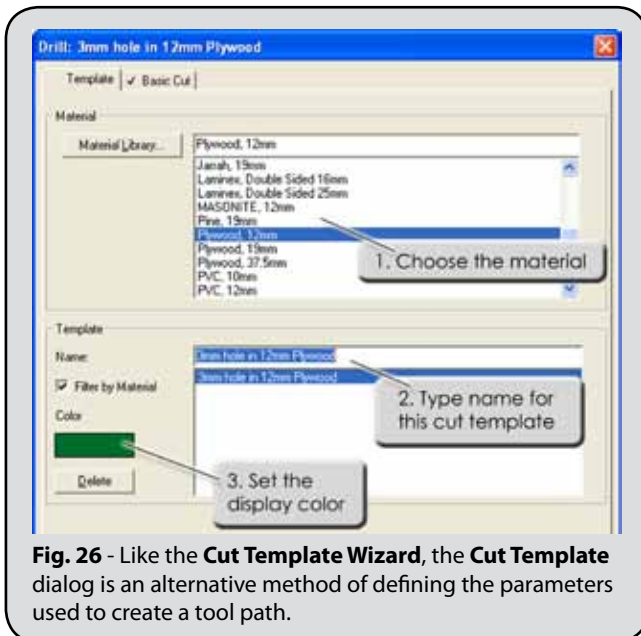

Fig. 26 - Like the **Cut Template Wizard**, the **Cut Template** dialog is an alternative method of defining the parameters used to create a tool path.
2. The Cut Template dialog will open to the **Template** tab (Fig. 26).